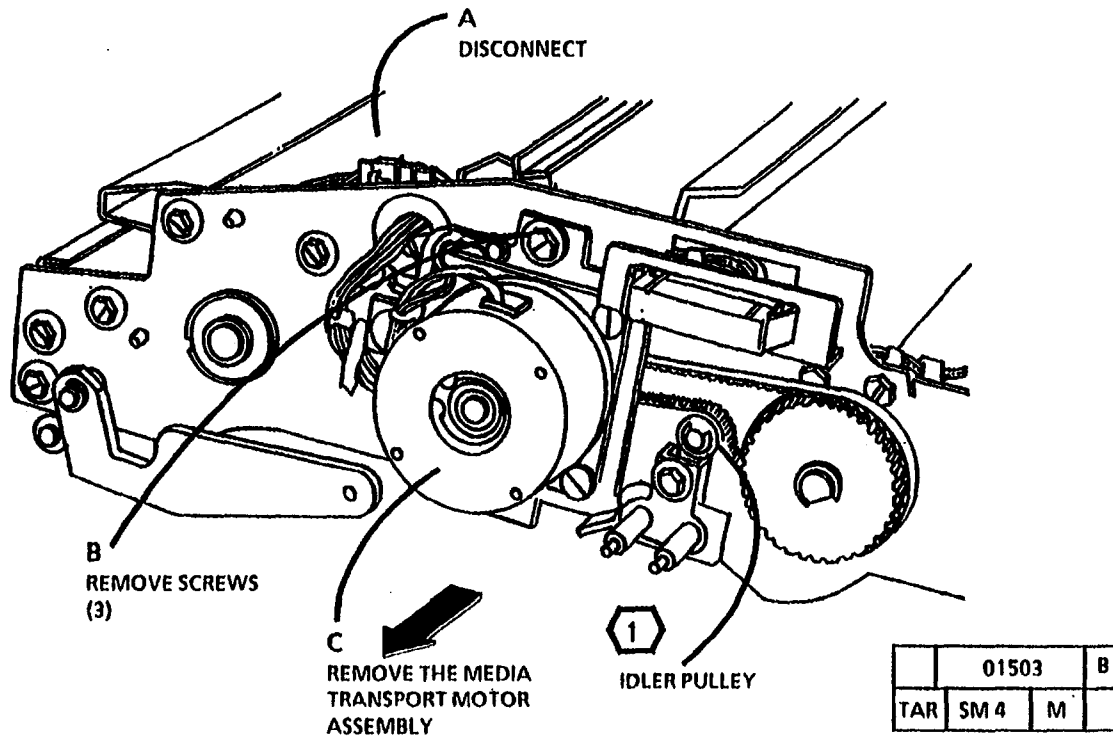

Figure 1. Remove the Media Transport Motor
6. (Figure 1): Remove the Media Transport Drive Motor Assembly.
① For Replacement of the Media Transport Drive Motor, refer to Figure 1 of the Removal: Ensure that the belt is over the idler pulley, as shown in the Figure 1.
② If a new motor is being installed, install the gear on the new motor.